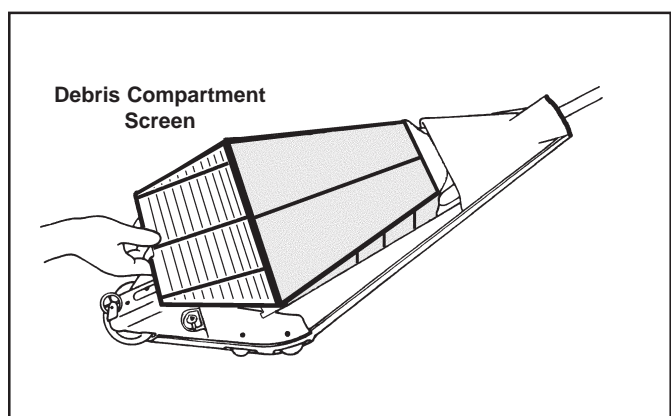

Figure 4. Remove Debris Compartment Screen
5. Pull the screen up and away from the tail section to remove (see Fig 4).